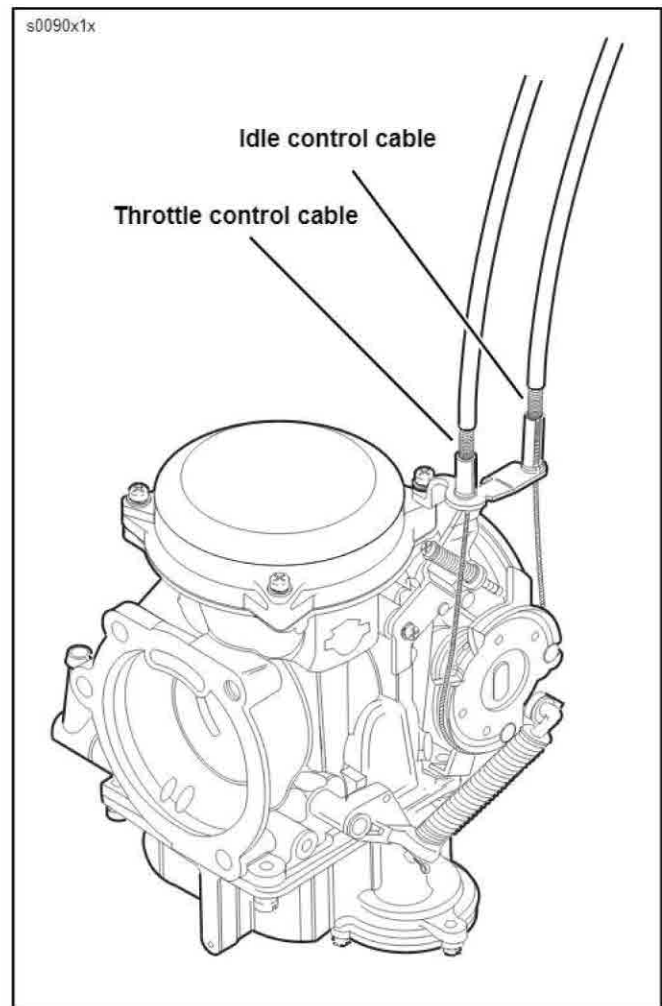

Figure 3. Throttle Cables
4. See Figure 3. Disconnect the throttle cables from the carburetor.